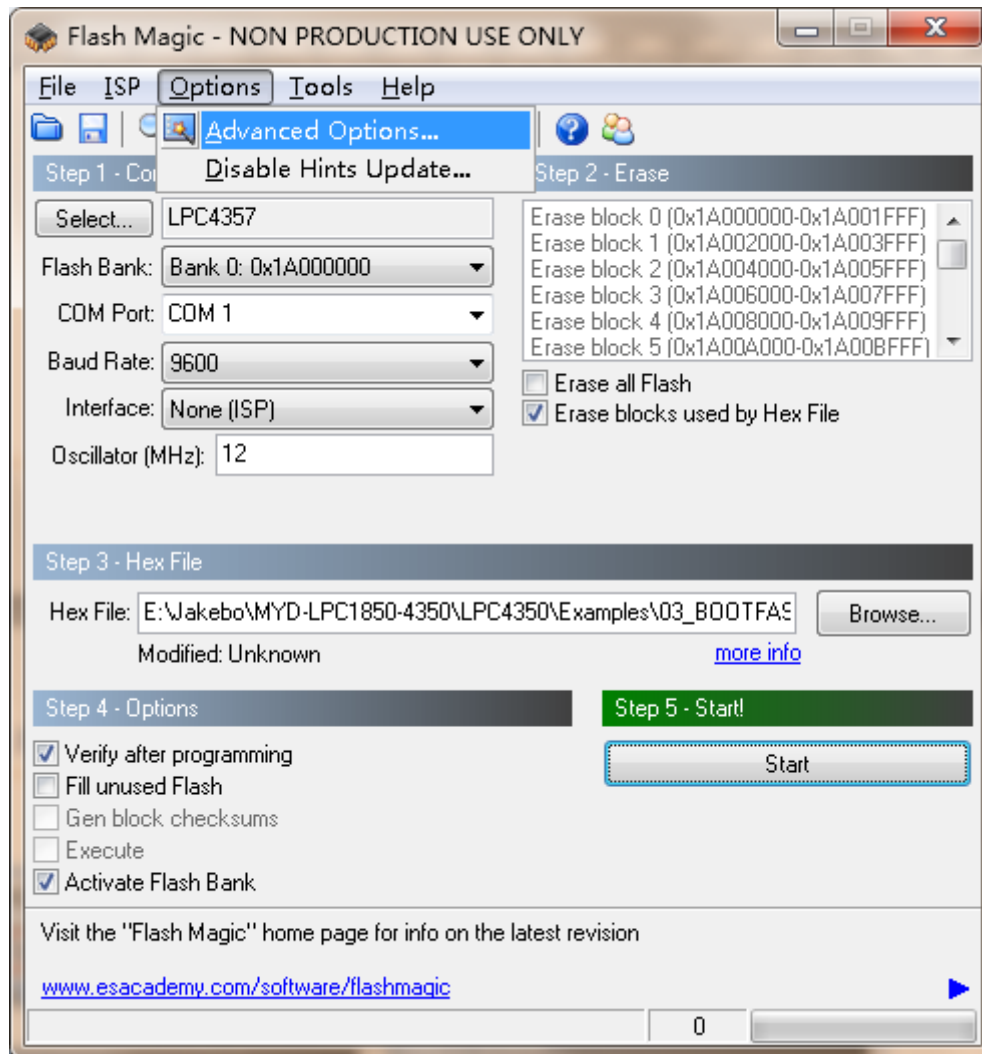

Figure 3-14
(1) Open FLASH magic and click “Options”, then choose “Advanced Options”. Refer to figure 3-14: